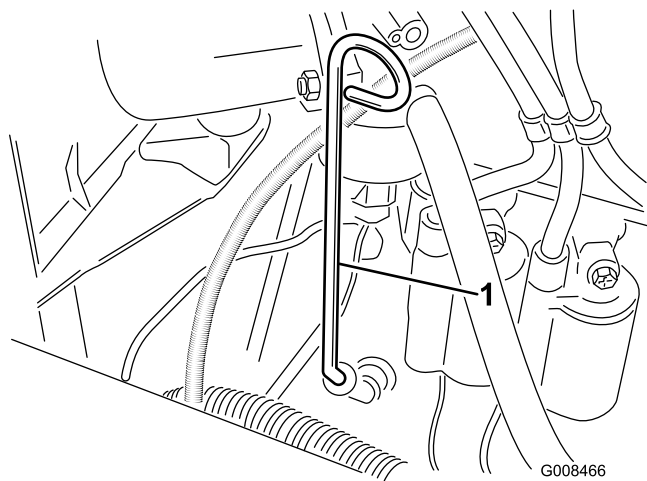

Figure 20
2. Remove the dipstick (Figure 20), wipe it clean and reinstall the dipstick. Remove the dipstick and check the oil level. The oil level should be up to the FULL mark on the dipstick
3. If the oil level is below the FULL mark, remove the fill cap (Figure 20) and add oil until it level reaches the FULL mark on the dipstick. **DO NOT OVERFILL.**